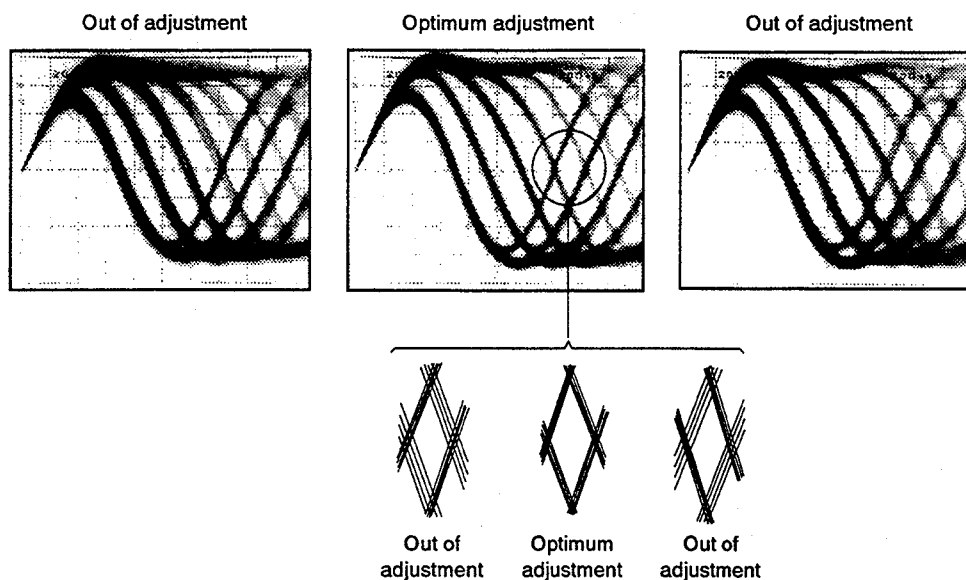

Fig.8 Eye pattern
2. First, adjust the radial tilt adjustment screw with the hexagonal wrench (GGK1002) so that the eye pattern (the diamond shape at the center of the RF signal) can be seen the most clearly (Fig. 8)
3. Next, adjust the tangential tilt adjustment screw with the hexagonal wrench (GGK1002) so that the eye pattern (the diamond shape at the center of the RF signal) can be seen the most clearly (Fig.8)